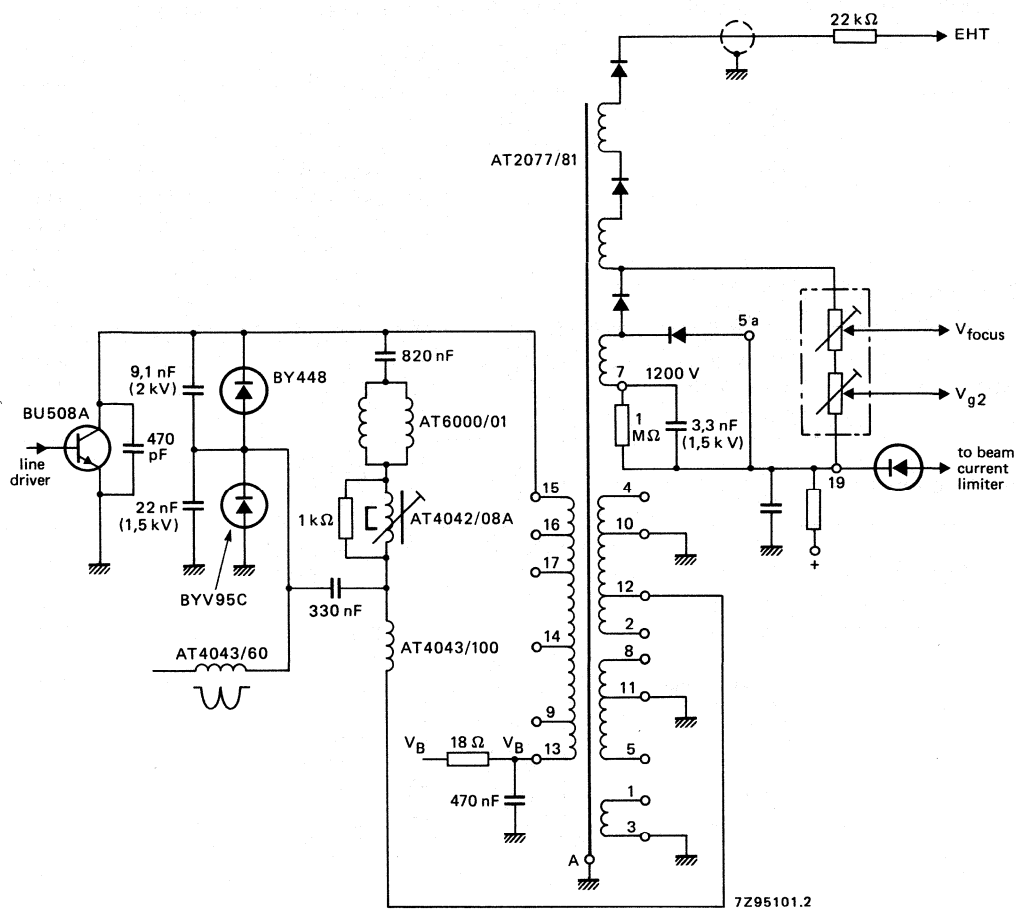

Fig. 7 Application circuit (110°).
\* DC component on these pulses is  $V_{B'}$  (see Figs 7 and 8).
**ELECTRICAL DATA:** for use with 110° colour picture tubes, see Fig. 7.